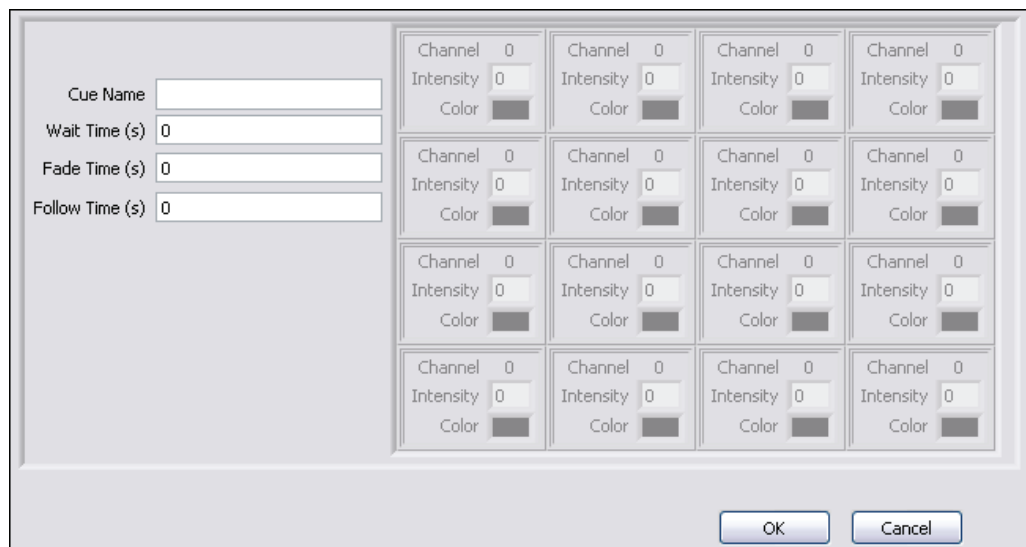

Figure 7-12. Front Panel of Record Dialog Box
5. Prepare the VI for use as a dialog box. When complete, it should be similar to Figure 7-12.